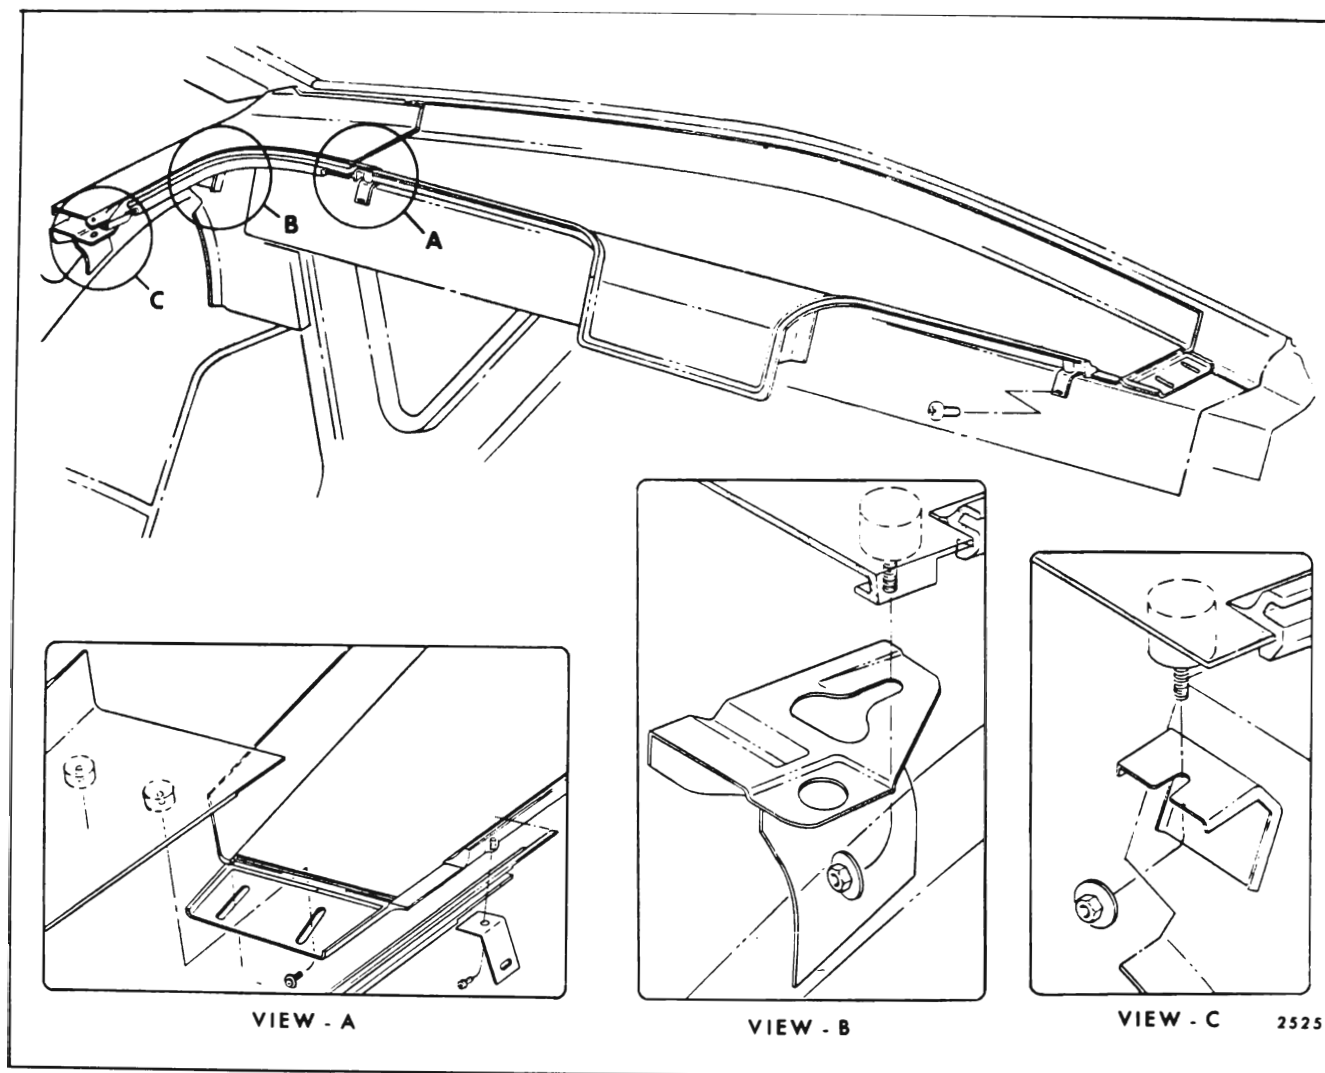
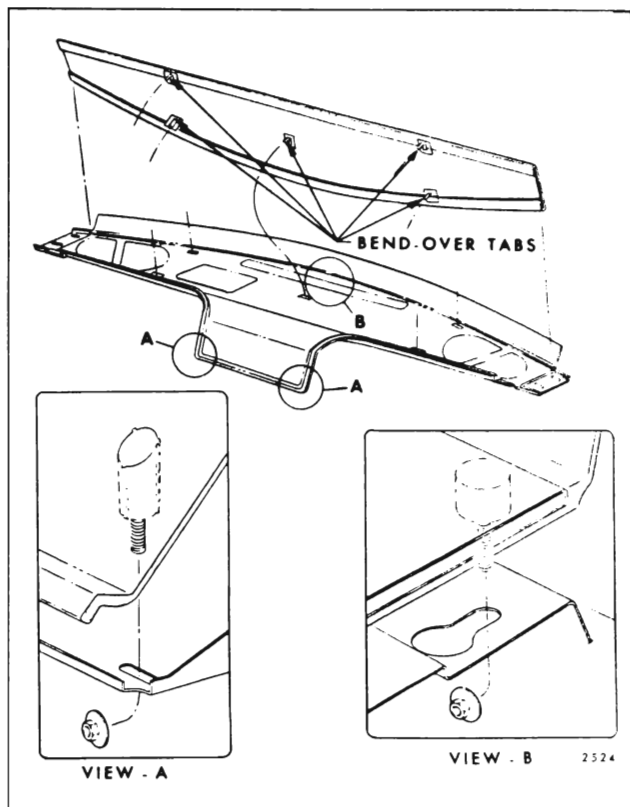

Fig. 14-41—Compartment Shelf Trim Panel - Cadillac "E" Styles
Fig. 14-42—Compartment Shelf Center Trim Panel -
4. Remove rear compartment side panel attaching screws (View "A", Fig. 14-41). Loosen compartment shelf to metal foundation nuts as indicated in View "C", Fig. 14-41. Remove center section attaching nuts (View "A & B", Fig. 14-42 and View "B", Fig. 14-41).
6. To remove the center trim panel, bend metal tabs (Fig. 14-42) to straight down position and detach from center base panel.